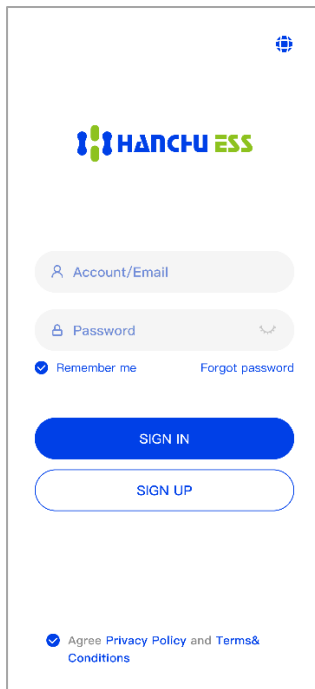

Figure 9
- If you have already registered, you can log in directly . Then you can turn to "**4.2.2 Add devices**". If you don't have an account yet, tap "**Sign up**" to register as shown in Figure 9.